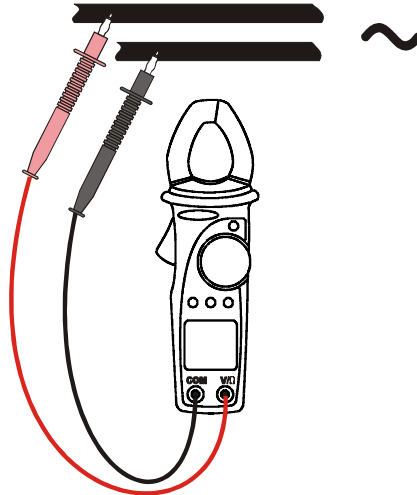

Fig. 6: frequency measurement with test leads
4. Connect the test leads to the circuit under test (see Fig. 6). The measured frequency value is displayed.
3. Connect the test leads to the circuit under test (see Fig. 6). The instrument displays the Total Harmonic Distortion value of the input signal. The symbol "**THD%**" is shown on the display. See chapter 8 for the parameter's definition.